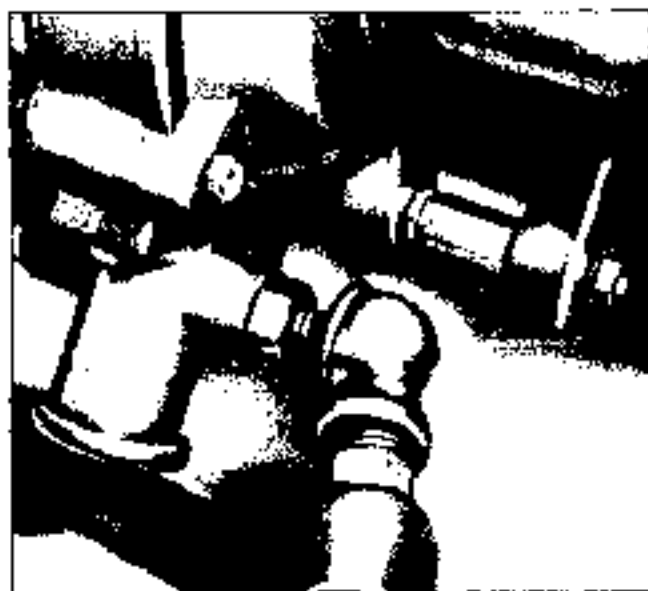

Fig. 4-26 Filling System through Service Valve
1. With all engine operated accessories turned off and ignition turned off, deflate system through service valve. Remove high pressure line at regulator and connect test gage (Fig. 4-26).
2. Inflate system through service valve to maximum available pressure (Fig. 4-26).